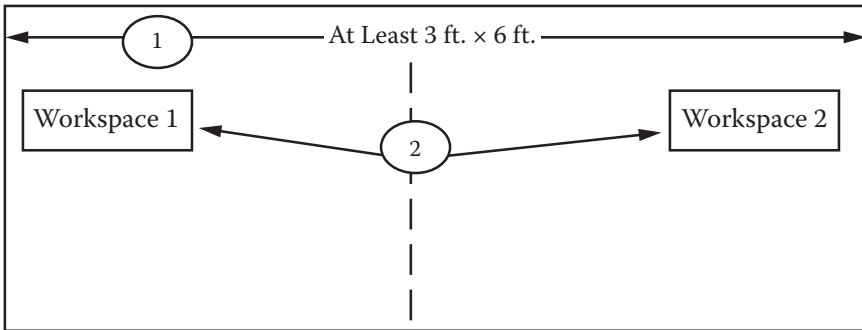

Figure 4.7 Paper on wall with two workspaces.
1. Place a large (at least 3' x 6") piece of paper on a wall or flat surface (Figure 4.7).
2. Outline two "workspaces" on the paper (Figure 4.7).